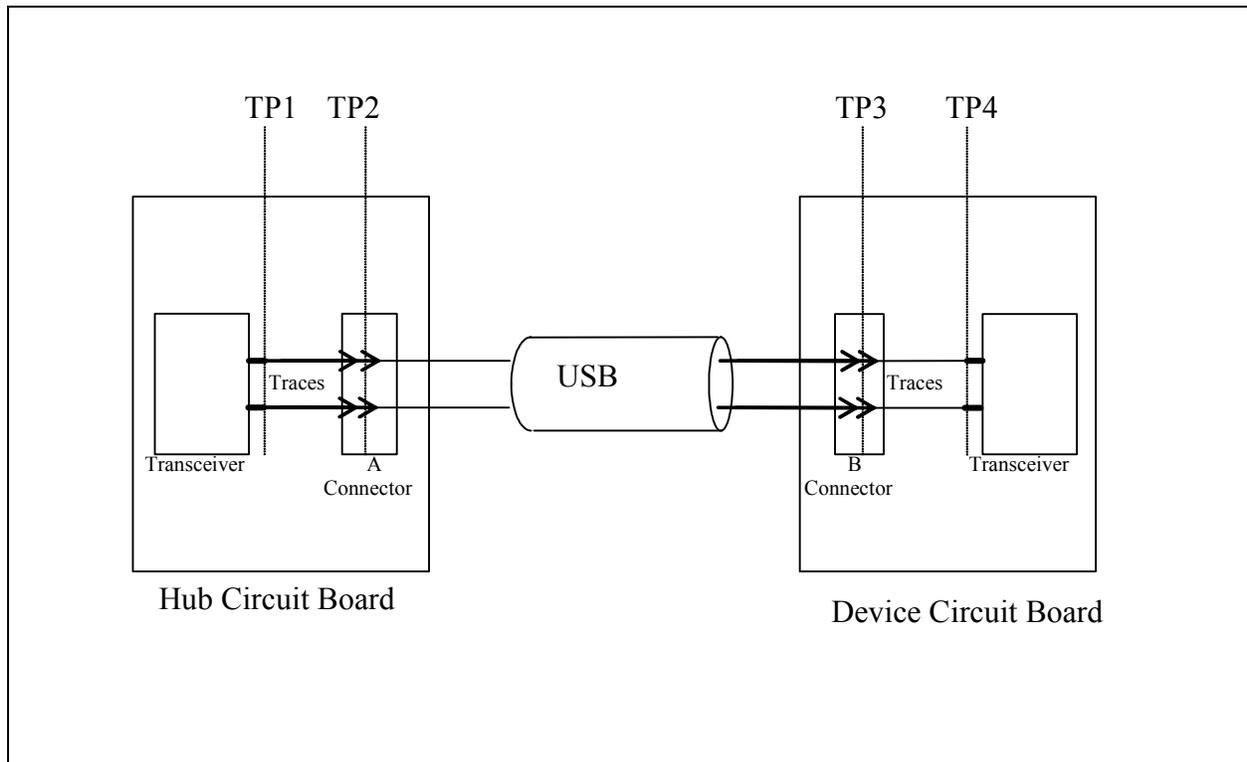
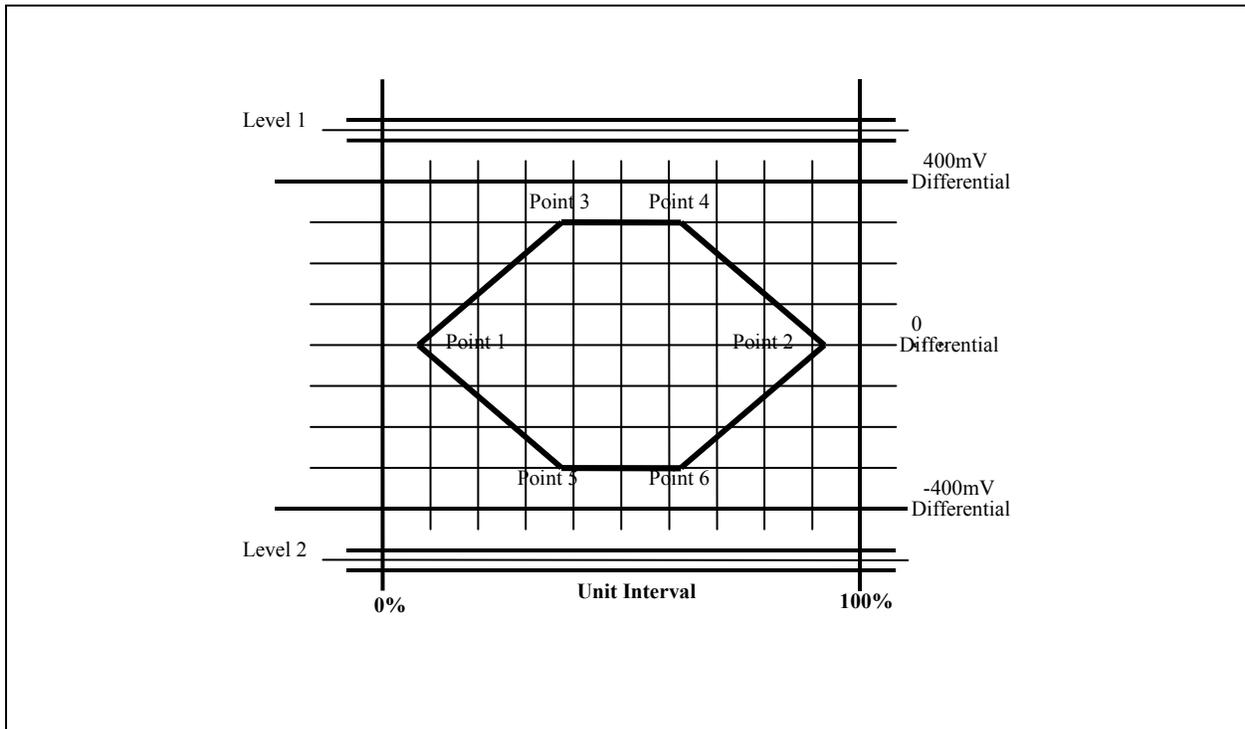
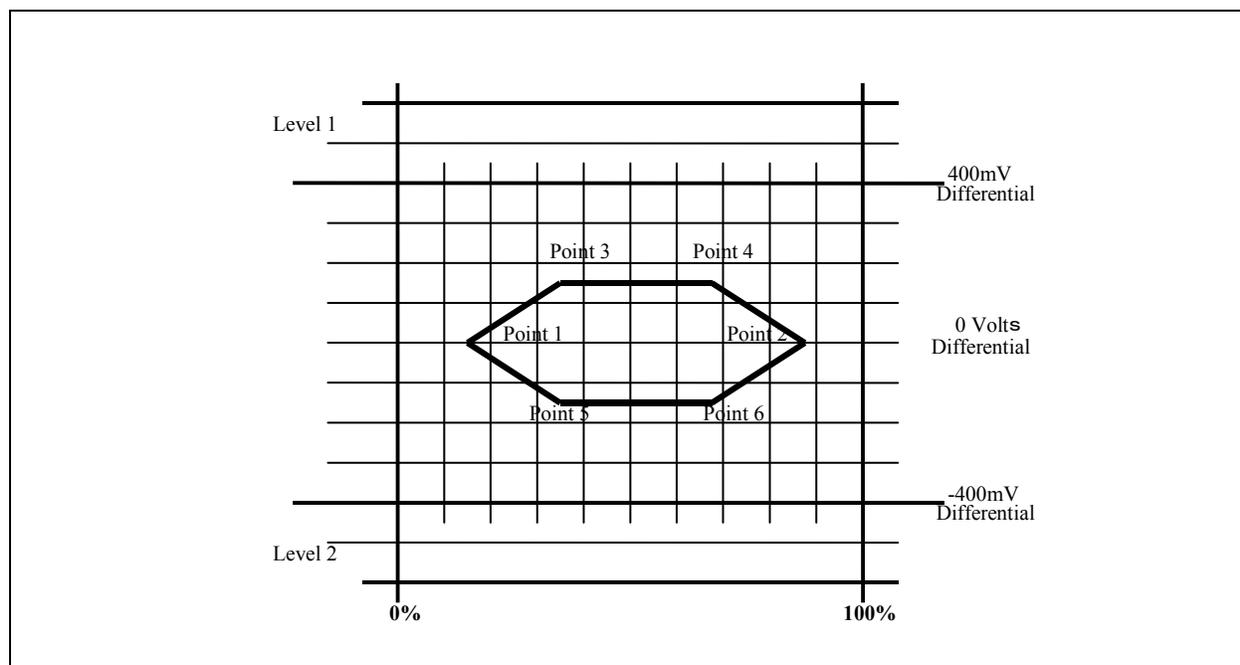

Figure 6.3 Eye Pattern Measurement Planes
Figure 6.4 Eye Pattern for Transmit Waveform and Eye Pattern Definition
Figure 6.5 Eye Pattern for Receive Waveform and Eye Pattern Definition
Hi-Speed USB signals are characterized using eye patterns. For measuring the eye patterns 4 points have been defined (see Figure 6.3). The Universal Serial Bus Specification Rev.2.0 defines the eye patterns in several 'templates'. The two templates that are relevant to the PHY are shown below.
The eye pattern in Figure 6.4 defines the transmit waveform requirements for a hub (measured at TP2 of Figure 6.3) or a device without a captive cable (measured at TP3 of Figure 6.3). The corresponding signal levels and timings are given in Table 6.6. Time is specified as a percentage of the unit interval (UI), which represents the nominal bit duration for a 480 Mbit/s transmission rate.
The eye pattern in Figure 6.5 defines the receiver sensitivity requirements for a hub (signal applied at test point TP2 of Figure 6.3) or a device without a captive cable (signal applied at test point TP3 of Figure 6.3). The corresponding signal levels and timings are given in Table 6.7. Timings are given as a percentage of the unit interval (UI), which represents the nominal bit duration for a 480 Mbit/s transmission rate.